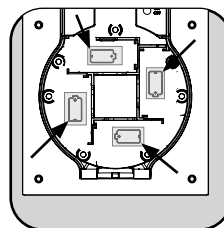

Figure 9
- 3.5 Place 4 C - Alkaline Batteries (one set included) in the Handle. See the '+' and '-' signs on the battery slots (Fig. 9)